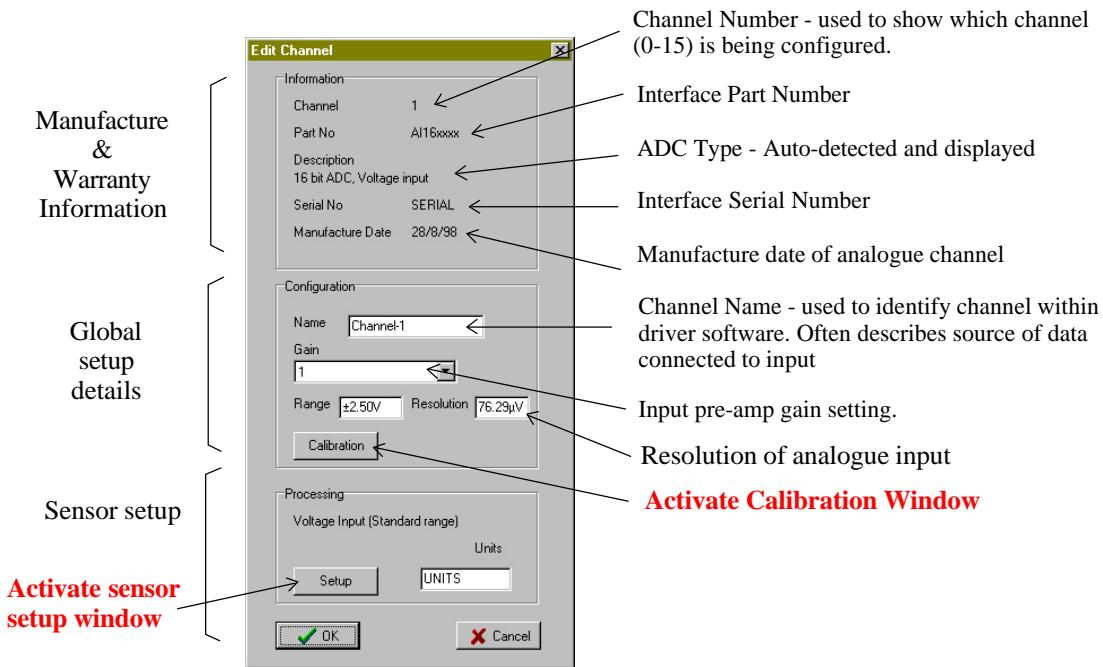

Figure 20 PodMng Software - Edit Channel Window
- At the Display Window (See Figure 20) select the **Text (Raw)** or **Text (Processed)** tab.